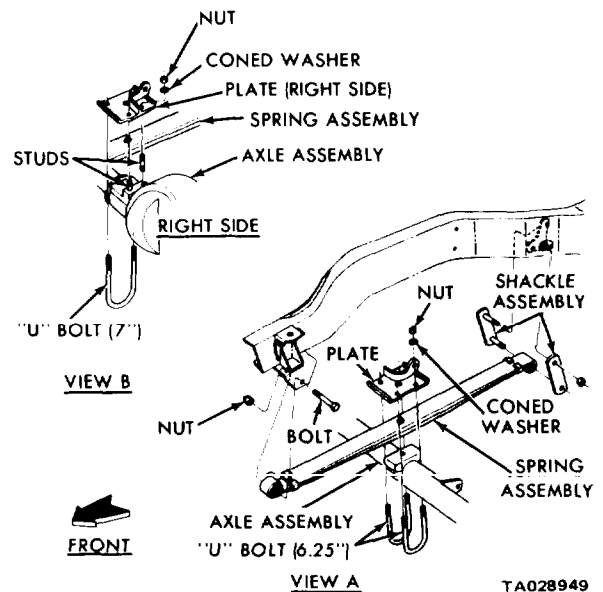

Figure 7-10. Front Suspension (4X4 Models).
a. Removal. Refer to figure 7-10.
(1) Using a lifting hoist hooked to the towing eyes or to the frame attachment, raise the truck. Install jack stands.
(2) Remove the "U" bolts securing the spring to the axle.
(3) Remove the spring shackle bolts, shackles, and the spring front eye bolt. Remove the spring.
b. Installation. Refer to figure 7-10.